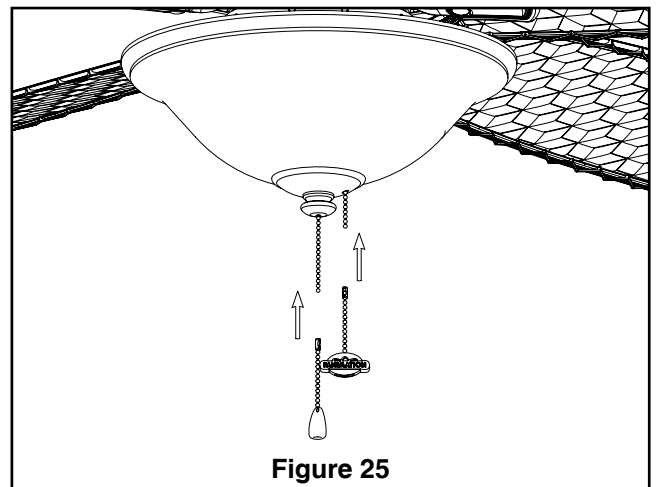

Figure 25
- ☐ 3. Install pull chains and fobs. (Figure 25)